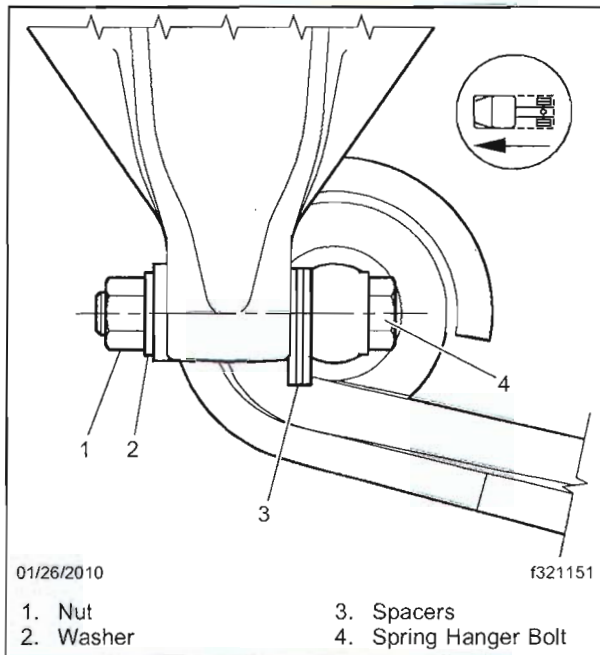

Fig. 2, Spring Hanger Bolt Assembly
2. For vehicles in FL567B or FL567C with missing spring hanger bolts, replace the missing and/or damaged parts. Tighten 175 to 221 lbf-ft (237 to 300 N·m). See **Fig. 2**.